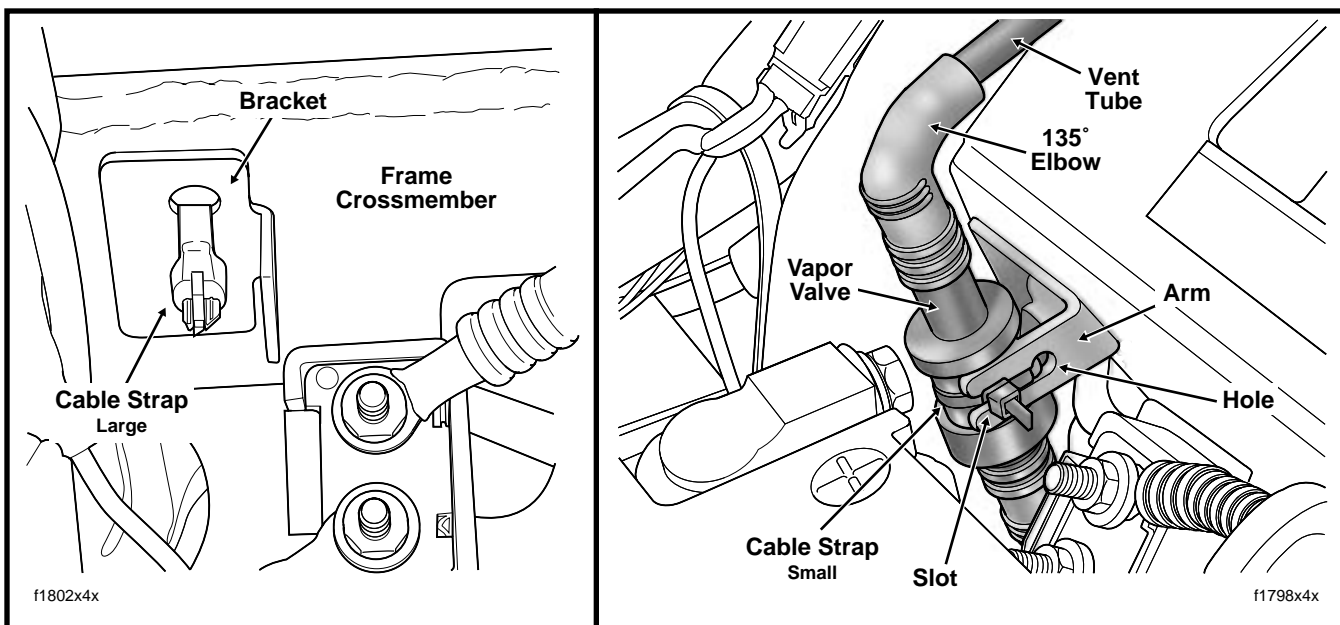

Figure 2. Re-Mount Vapor Valve
7. Feed end of cable strap through lower hole in frame crossmember and then through lower hole in bracket. Mate ends of cable strap, and using a needle nose pliers, pull strap tight. Cut any excess cable strap material. See left frame of Figure 2.
9. From right side of bracket, insert end of **small** cable strap through hole in arm and then around body of vapor valve. Mate ends of cable strap and pull tight engaging strap in slot of arm. Cut any excess cable strap material. See right frame of Figure 2.
17. Feed end of cable strap through lower hole in frame crossmember and then through lower hole in bracket. Mate ends of cable strap, and using a needle nose pliers, pull strap tight. Cut any excess cable strap material. See left frame of Figure 2.
18. From right side of bracket, insert end of **small** cable strap through hole in arm and then around body of vapor valve. Verify that long necked end of vapor valve is at the top. Mate ends of cable strap and pull tight engaging strap in slot of arm. Cut any excess cable strap material. See right frame of Figure 2.